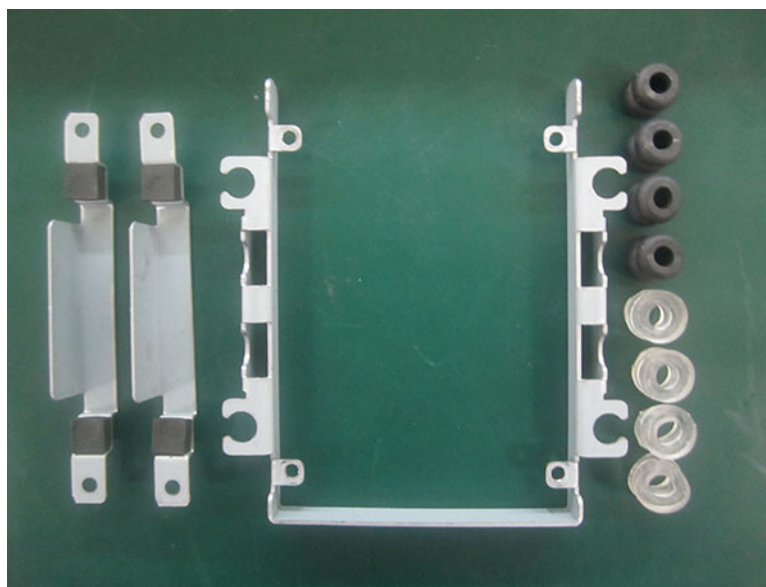

Figure 2.19
2. Take out the U type bracket, 4 black washers, 4 transparent washers and 2 HDD hold-down clamps (with black foams attached). (See Fig 2.19)